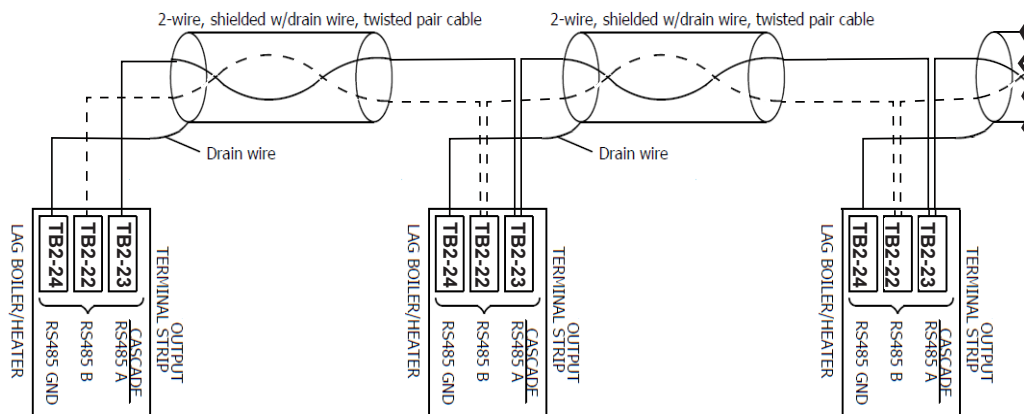

Figure 6. Cascade Wiring Connections
Communication between lead and lag units is accomplished using RS485. When wiring Pennant units for cascade operations, use terminals 22 (B), 23 (A), and 24 (GND) of the output terminal strip. Use 2-wire twisted pair, shielded w/drain, communication cable between units. Referring to Figure 6, connect one end of the twisted pair wires to A (terminal 23), and the other to terminal B (terminal 22), and the drain wire to GND (terminal 24). Connect the other end of the cable to the next Pennant, matching the termination wiring on the previous unit, except for GND. Only connect the drain wire to ground on one end of the cable to avoid ground loop issues. If more than two Pennant units are cascaded together, daisy chain the wiring from Pennant to Pennant, keeping the cables as short as possible.